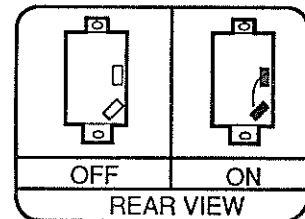

Figure 7-4
Test the 2-position light switch by moving the switch to the down (OFF) position. The bottom and middle terminal should show infinite resistance. With the switch in the up position (ON), check continuity between the bottom and middle terminal. Resistance should be zero. See Figure 7-4.